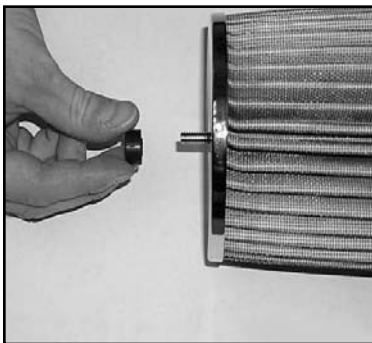

Fig. 1
3. Remove the rubber grommet from the OEM filter and slide it onto the stud on the K&N FILTERCHARGER. (Fig 1)